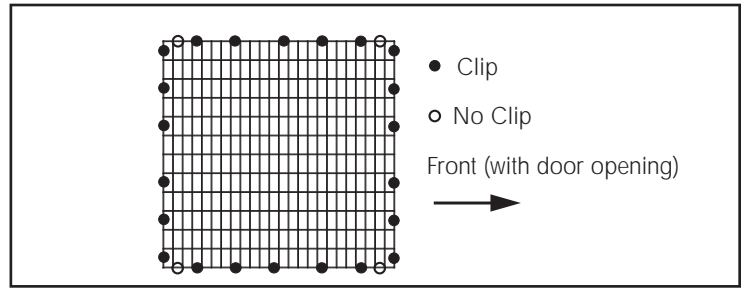

Figure 7 (Model AH2424 Top Panel)
7. Place the top panel on top of the side panels. Fasten clips at each ● shown in Figures 7 - 9. Do not put clips where the ○ appears.